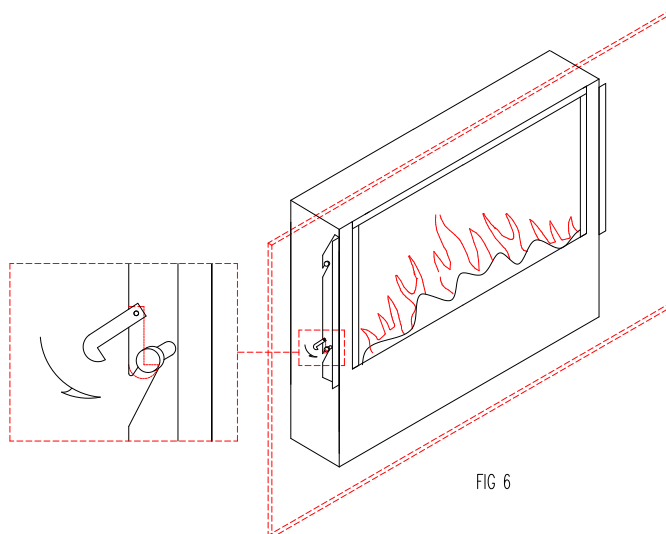

FIG 6
3. Lift the face up to the fire. Two people may be required to carry out this installation. Then lower the face into place so that the brackets on the rear of the face locate either side of the studs on the fire. Once in place firmly screw into place the locking bolt. (Figure 6)